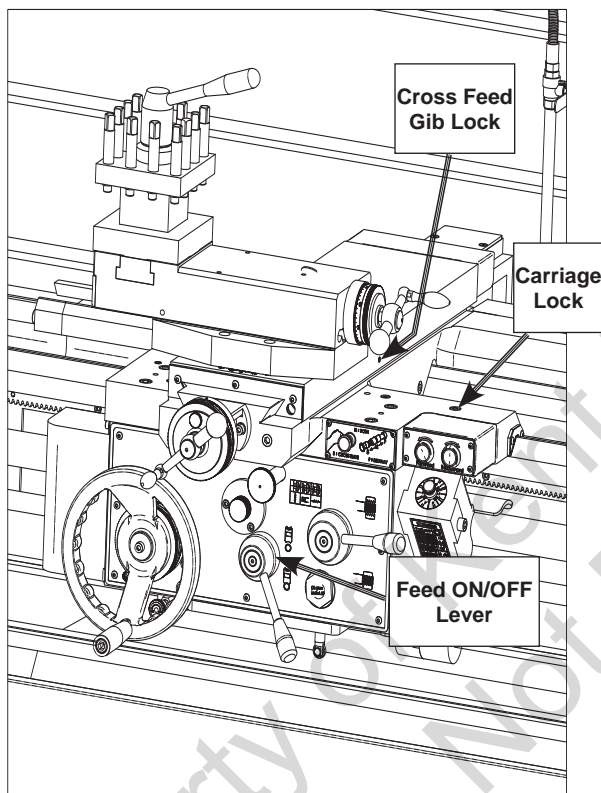

Figure 50. Carriage lock and gib lock.
If the threading or general carriage feed is required, the carriage lock (Figure 50) must be disengaged. If the cross feed will be used for facing, the carriage lock should be engaged and the cross feed gib lock screw should be loose. If it is tight, loosen the cross feed gib lock using a 3mm hex wrench.
3. Push down on the feed ON / OFF lever (Figure 50) on the front of the apron to engage power feed for either the carriage or the cross slide.